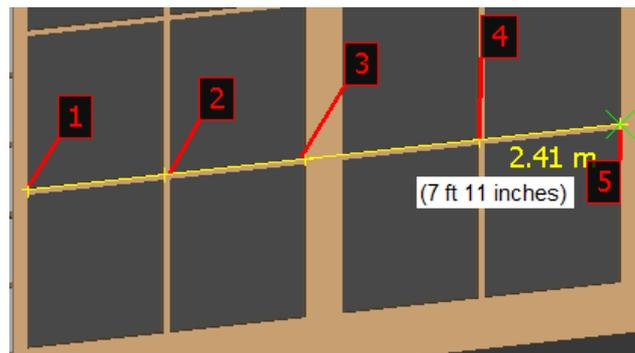

Figure 3-40 The total distance calculated between point 1 and 5
- Repeat the procedure followed in steps 1 to 3 to calculate the total distance between 1 and 5; the calculated distance is displayed, as shown in Figure 3-40.